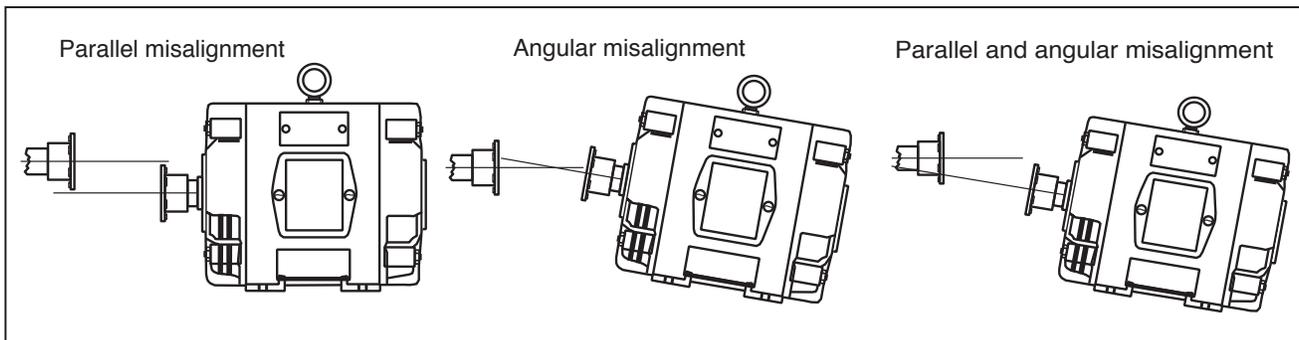

Figure 5. Types of angular misalignment.
** To find the angular misalignment in mils/inch (mm), measure the widest opening in mils (mm), then subtract the narrowest opening in mils (mm) and divide by the diameter of the coupling in inches (mm). Note: Up and down motion of the driving and driven shafts with temperature may be in either direction (see Figure 5).